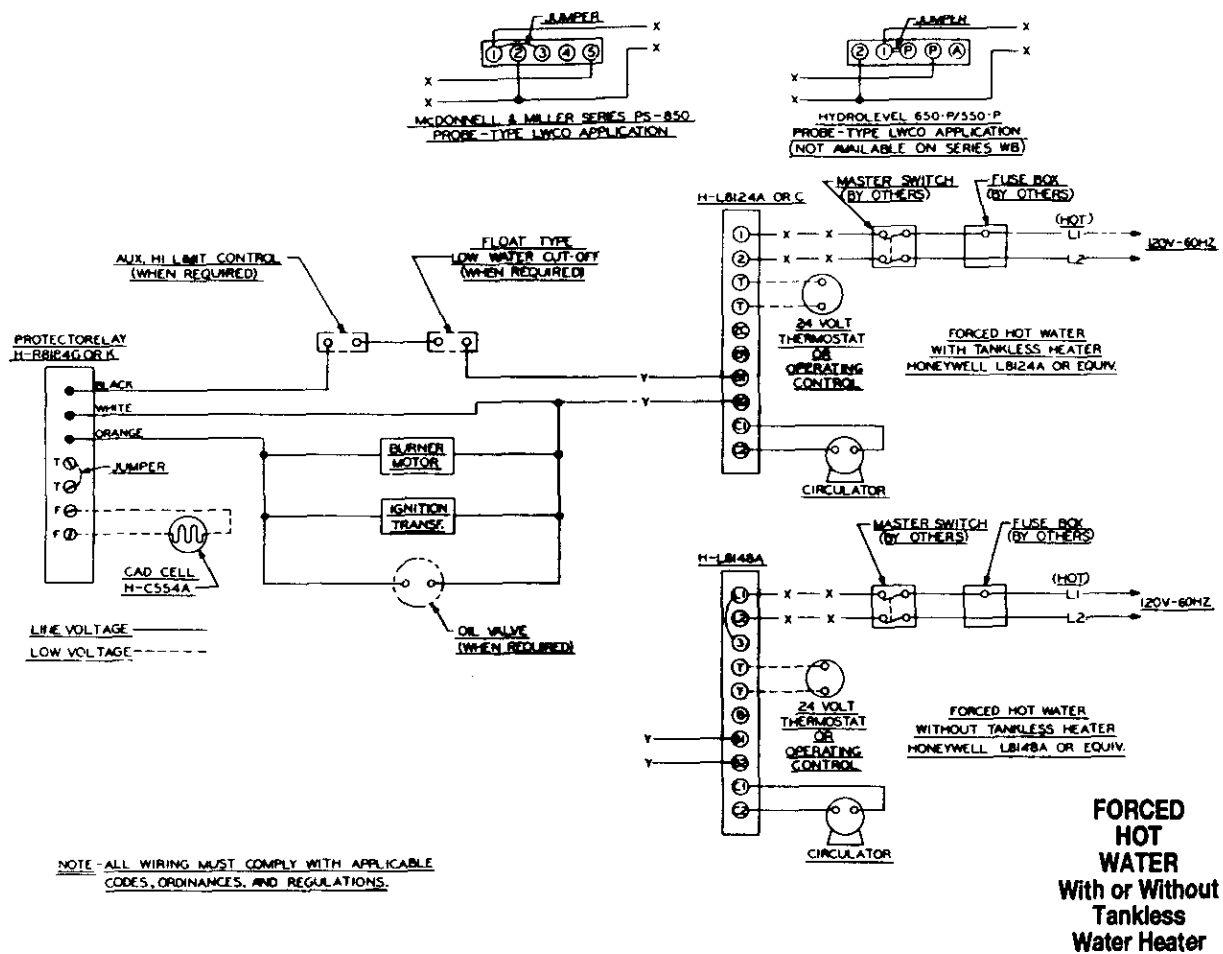

FIGURE 12
- 2— For recommended wiring, See Figures 12 and 13.